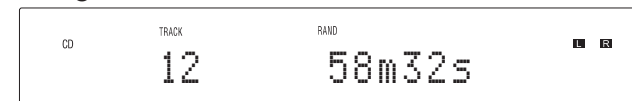

Figure 27
1. With the MCT80 in the STOP ■ Mode press the RANDOM Push-button. The word RANDom will be indicated in the Front Panel Display. Refer to figure 27.